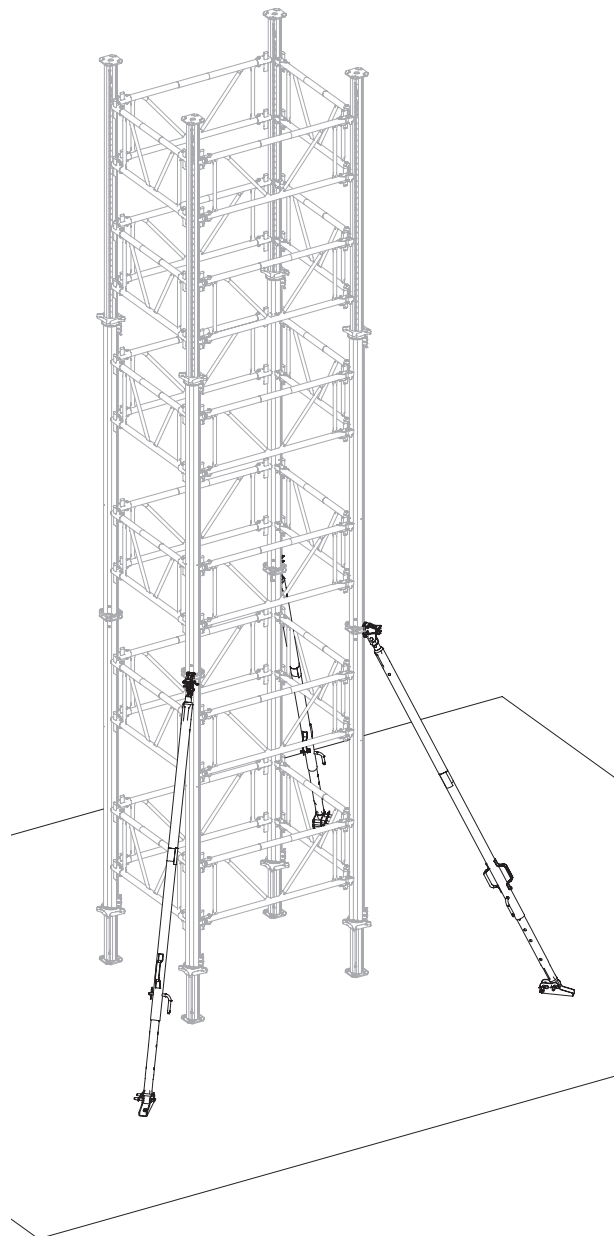

Fig. A5.02
5. Fit additional push-pull props and detach the tower from the crane. (Fig. A5.02)